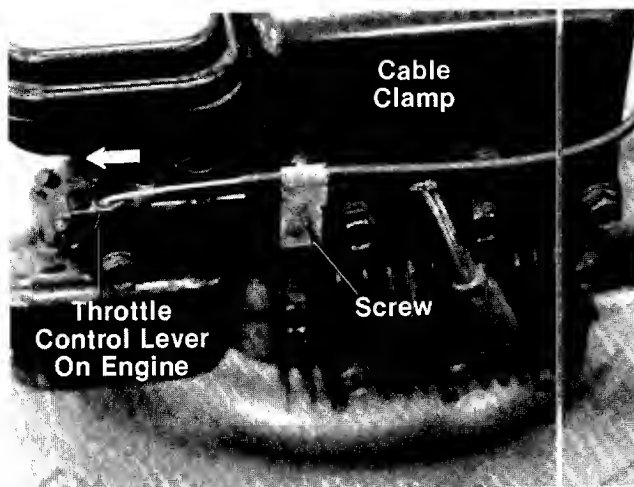

FIGURE 7.
10. Push the throttle control lever on the engine to the full open position (as far toward the outside of the unit as it will go) as shown in figure 7.
12. Remove the screw on the cable clamp shown in figure 7. Slip the control casing under the clamp. With the throttle lever on the engine still in the full open position, replace and tighten the screw to secure the throttle control cable.
1. Loosen, but do not remove, screw securing throttle control wire assembly at engine. Refer to figure 7.